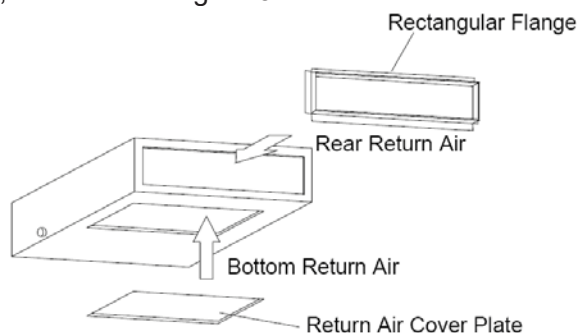

Figure 3-1-22
- ①. The maximum length of the duct means the maximum length of the supply air duct plus the maximum length of the return air duct.
- ②. The duct is rectangular and connected with the air inlet/outlet of the indoor unit. Among all supply air outlets, at least one should be kept open.
(2) The default installation location of the rectangular flange is at the back and the return air cover plate is at the bottom, as shown in Figure 3-1-22.